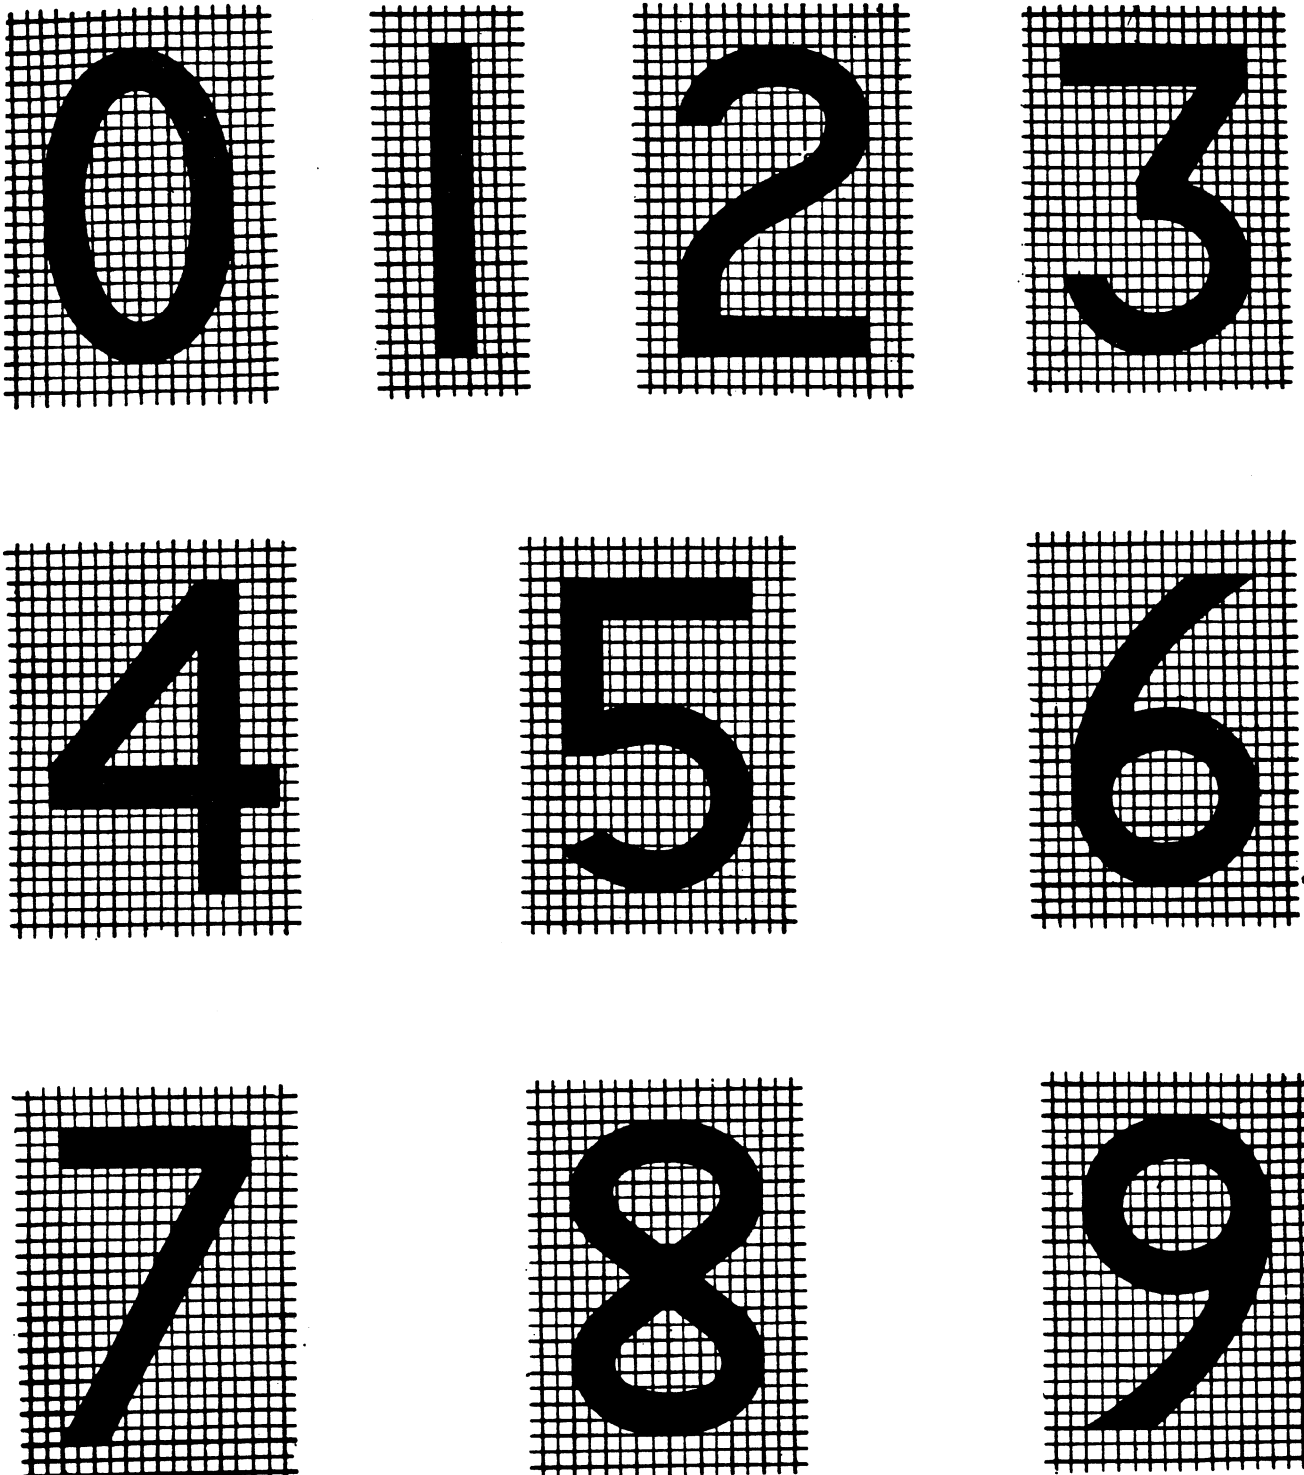

FIGURE 2. Numeral font
3.1.2.2 Numeral design: The recommended number series is shown on figure 2. This font is currently available for paste-up layout work, in double the specified sizes, as Artype S-274. Numeral designs shown in MS33558 are acceptable for parts covered by this specification. The following commercial fonts having the size ratios specified herein for the classes and types of control panels covered by this specification may be used. Stroke width of engraved letters shall be the same as that of the acceptable type fonts of the same letter height.